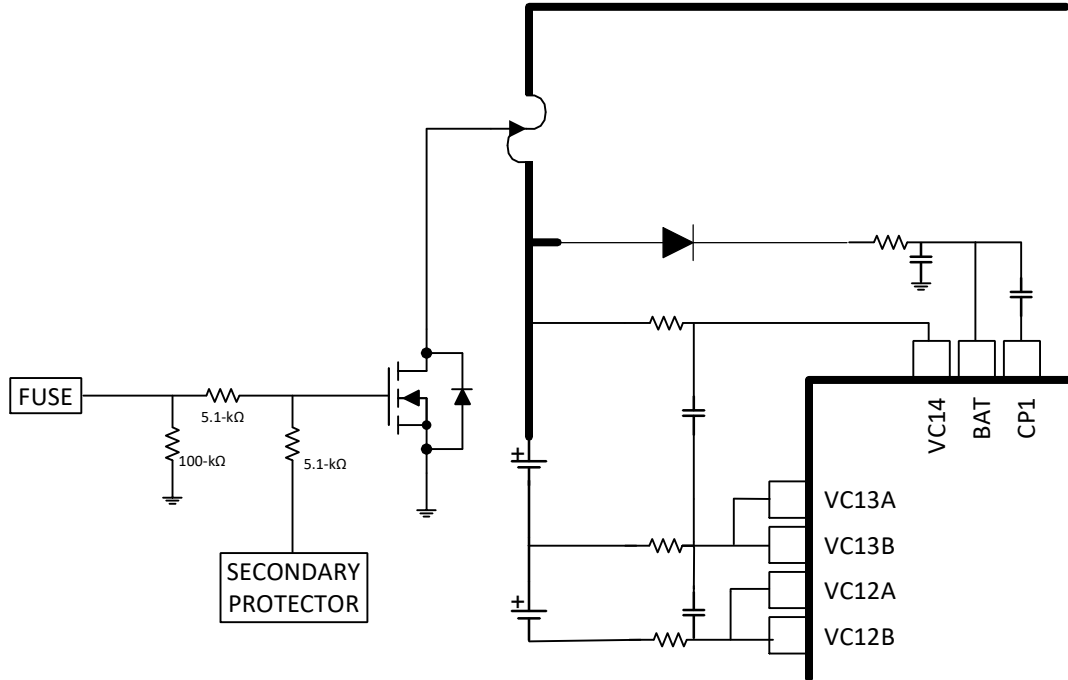

Figure 12-1. FUSE Pin Operation
The FUSE pin on the BQ769142 device can be used to blow a chemical fuse in the presence of a Permanent Fail (PF), as well as to determine if an external secondary protector in the system has detected a fault and is attempting to blow the fuse itself. The pin can drive the gate of an NFET, which can be combined with the drive from an external secondary protector, as shown in Figure 12-1. When the FUSE pin is not asserted by the BQ769142 device, it remains in a high-impedance state and detects a voltage applied at the pin by a secondary protector. The device can be configured to generate a PF if it detects a high signal at the FUSE pin.